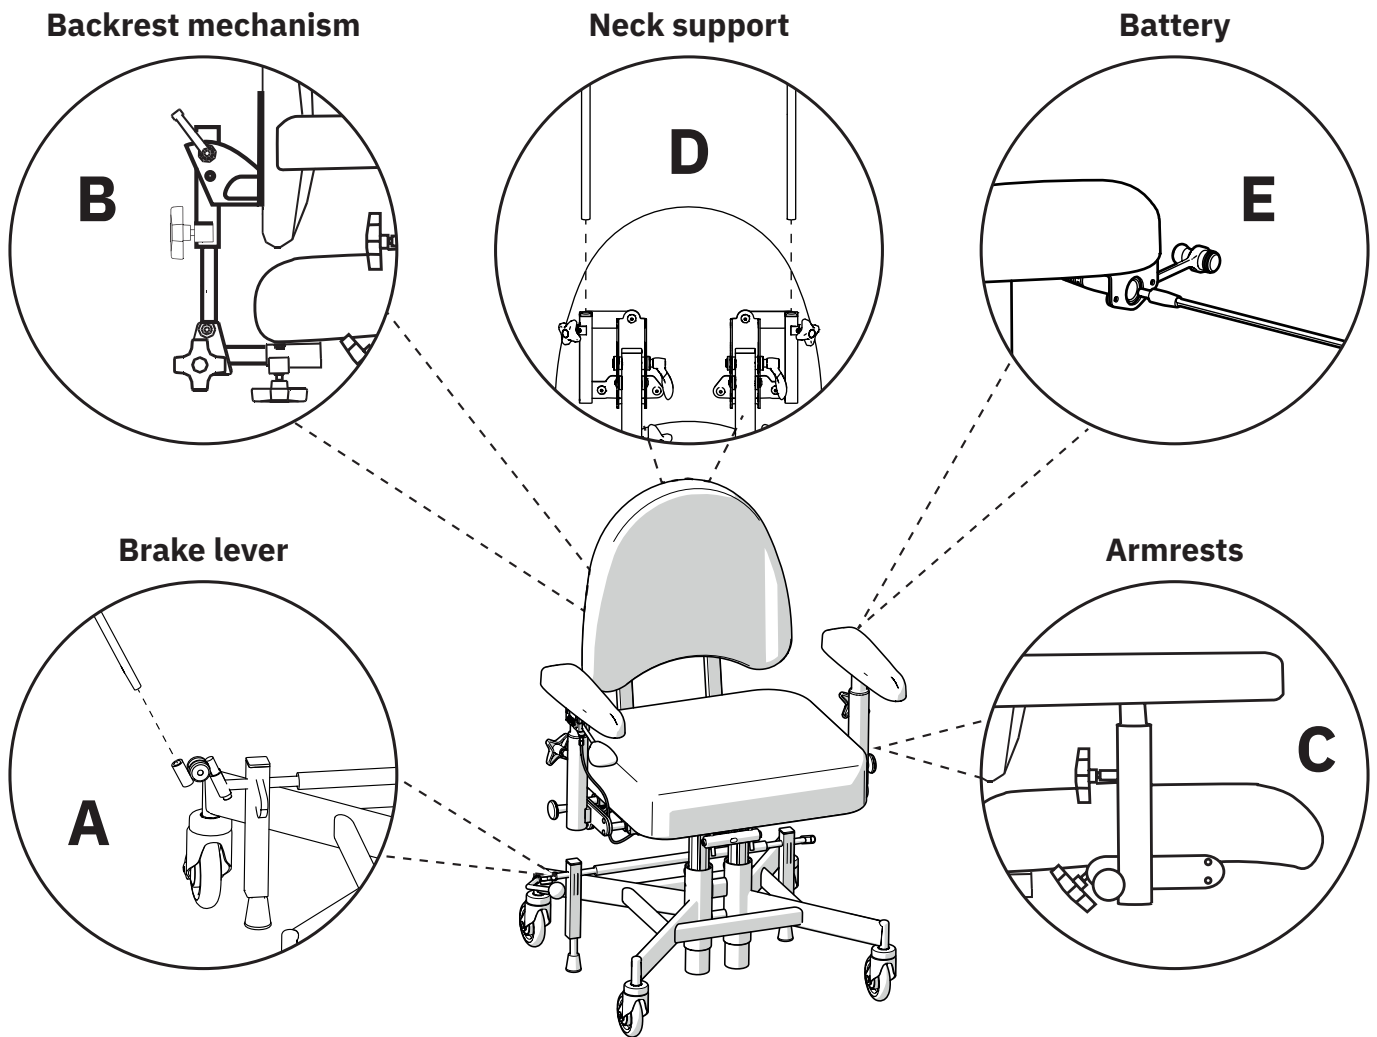

Figure 2.1. Preparations before the device is put into use.
Insert the brake lever into the brake lever bracket (A), see Figure 2.1. The brake lever can be placed on the right or left side.
Place the backrest support posts in the backrest mechanism (B) and set the desired height level, see Figure 2.1. Tighten all controls (B).
Loosen the armrest controls (C) and set the desired height and width levels, see Figure 2.1. Tighten all controls (C).
If the device is supplied with a neck support, insert the neck support mechanism into the backrest bracket (D) and set the desired height level, see Figure 2.1. Tighten all controls (D).
Before first use, the battery in electric models must be activated and charged. This is done by connecting the battery charger to the device's charging socket and to a wall outlet (E), see Figure 2.1. The charging socket can be placed in different places on the device. The most common is that the device comes with the charging socket mounted at the rear edge of the left armrest.